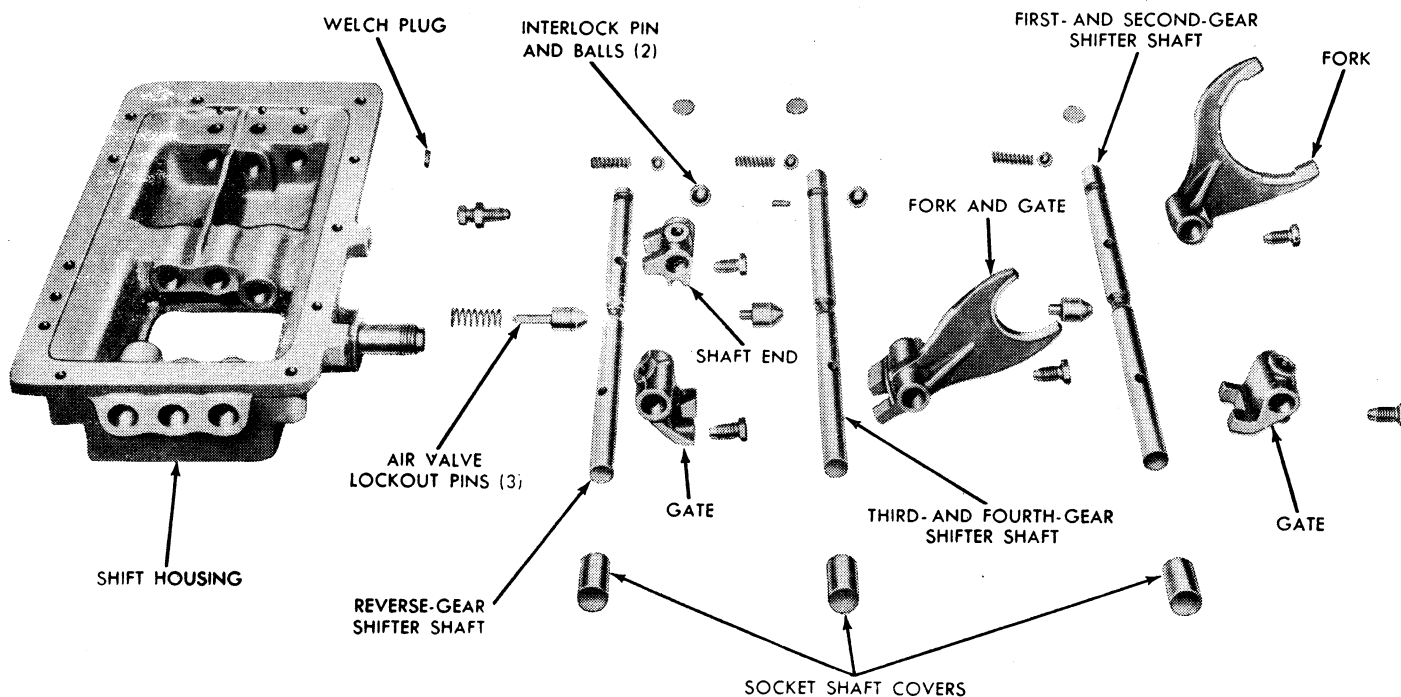

Fig. 17 Eight-speed transmission gearshift mechanism
Fig. 17 shows a layout of the parts comprising the eight-speed transmission gearshift mechanism. A similar arrangement is used for the ten-speed unit.
3. Make sure all shifter shafts are in neutral. Then remove lock wires and lock screws from shifting forks and gates, Fig. 17.